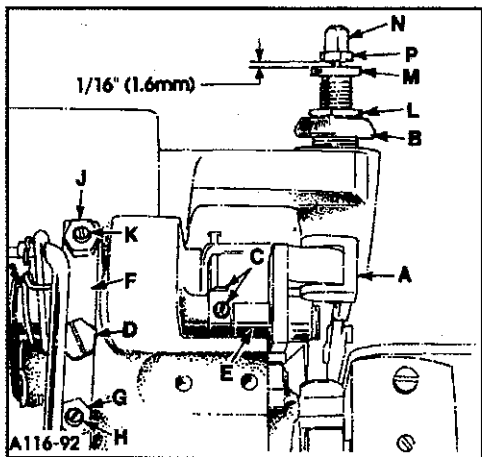

Fig. 17
Position presser arm (A, Fig. 17) in sewing position and lock in place by turning release bushing (B).
Loosen nut (G, Fig. 17) and adjust lifter lever stop screw (H) so the presser foot will not contact the needle driving arm or the upper looper/spreader at any point of travel when the foot lifter lever is completely depressed. Tighten nut (G). Loosen nut (J) and set stop screw (K) so there is approximately  $1/16$ " (1.6mm) free motion in the lifter lever before the presser foot starts to rise. Tighten nut (J).
Sufficient pressure must be maintained to feed work uniformly. Excessive spring pressure will cause the feed dogs and presser foot to wear prematurely when chaining. If it is desirable to increase or decrease the amount of presser foot pressure position, presser arm in sewing position and lock in place. Loosen nut (L, Fig. 17) and turn adjusting screw (M) clockwise to increase pressure or counterclockwise to decrease pressure. Tighten nut (L) loosen cap nut (N) and position nut (P) so there is a  $1/16$ " (1.6mm) clearance between adjusting screw (M) and nut (P). Hold nut (P) in position and tighten cap nut (N).